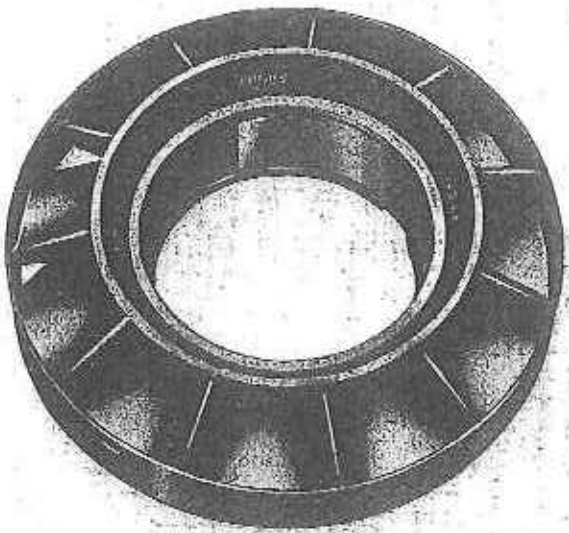

FIG 7
1. (Fig. 7) Fit the snap ring into the groove in the stator body, on the opposite side to the face of the stator marked 'FRONT'.